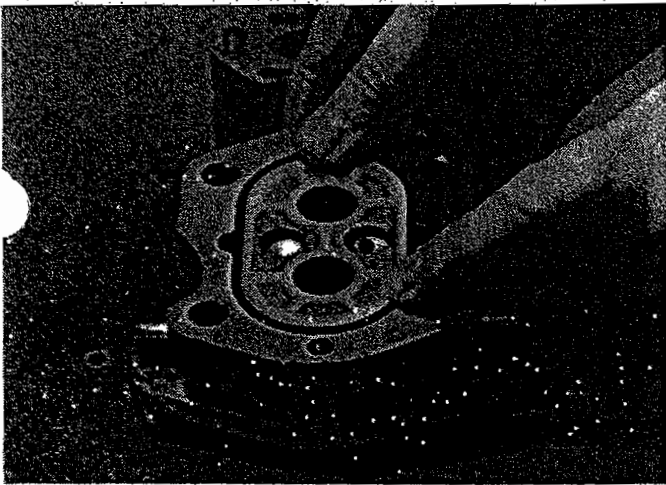

Fig. 16
20. After shaft seal (Item 10) and snap ring (Item 11) have been installed in flange plate (Item 3), install rubber gasket (Item 12) with pressure distribution grooves facing down into flange recess. Install paper backup (Item 13) and nylon backup (Item 14). Use clean heavy grease to hold backups in place. (Fig. 16)